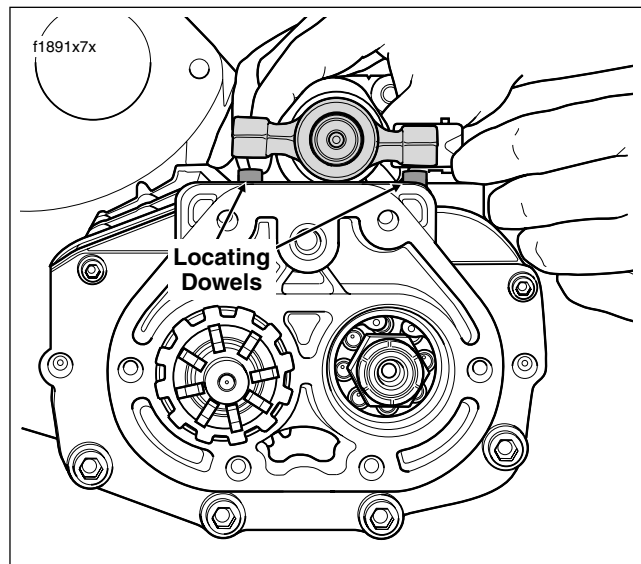

Figure 7-12. Place Support Blocks on Locating Dowels
7. Raise the shifter cam pawl and place the shifter cam assembly over the locating dowels. See Figure 7-12. While aligning the holes in the support blocks with the dowels on the deck of the transmission case, slide the shifter forks as necessary so that the fork pins engage the channels in the shifter cam. See lower frame of Figure 7-8.